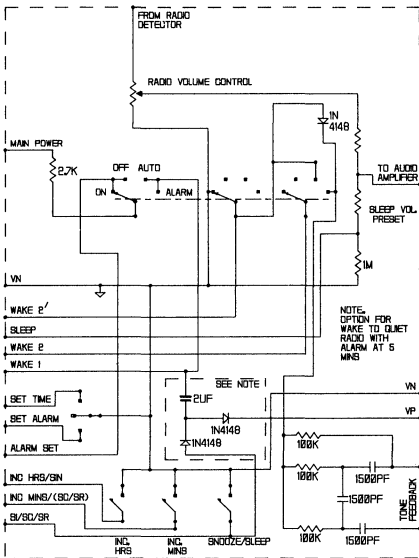

Fig.15 RADIO SWITCHING
- Option 2 Rotary switch operation (Fig.15)
- Option 3 (Fig.15,16B) Sine wave using the existing radio audio amplifier